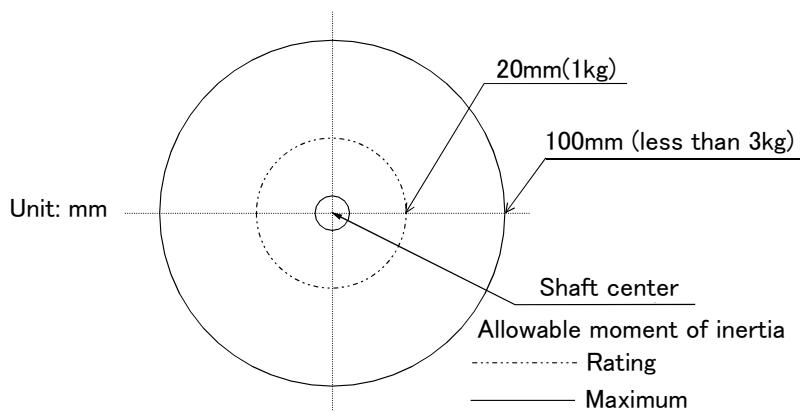

Fig.2-1 : Position of center of gravity for loads (for loads with comparatively small volume)
- (1) The tooling should have the value less or equal than the smaller of the allowable moment of inertia found in Page 8, "2.1.1 Basic specifications".
- (2) Fig. 2-1 shows the distribution dimensions for the center of gravity in the case where the volume of the load is relatively small. Use this figure as a reference when designing the tooling.
- Please use the robot in the allowable moment of inertia of maximum moment of inertia shown in Fig. 2-1.